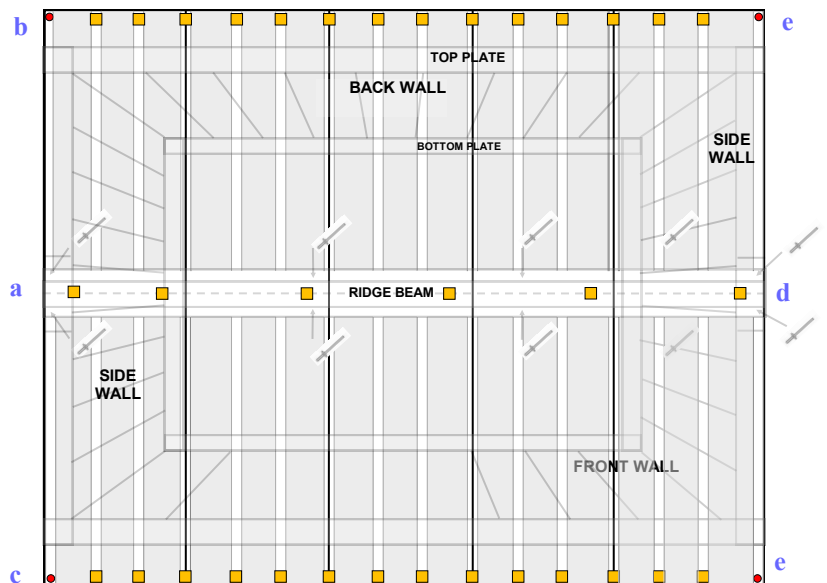

fig.2
- Rivet the 2 Ridge Caps together using 4 rivets, so total flashing is 2.550m long. Rivet the Ridge Cap to the centre of the roof using 8 x rivets as shown (fig.2).